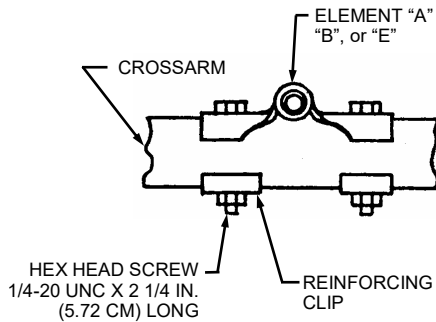

FIGURE 3 ANTENNA MOUNTING
4. The parasitic elements are mounted onto the crossarm at its match-marked location with 1/4-20 x 2 1/4" long hex head screws, as shown in Figure 3. Use a reinforcing clip at each screw location.